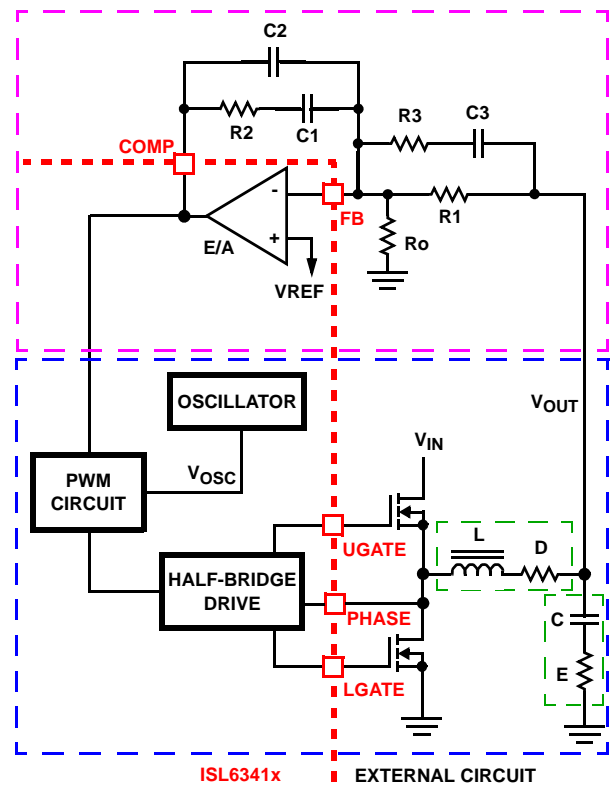

FIGURE 13. VOLTAGE-MODE BUCK CONVERTER COMPENSATION DESIGN
This section highlights the design consideration for a voltage-mode controller requiring external compensation. To address a broad range of applications, a type-3 feedback network is recommended, as shown in the top part of Figure 13.
Figure 13 also highlights the voltage-mode control loop for a synchronous-rectified buck converter, applicable to the ISL6341x circuit. The output voltage ( $V_{OUT}$ ) is regulated to the reference voltage,  $V_{REF}$ . The error amplifier output ( $COMP$  pin voltage) is compared with the oscillator ( $OSC$ ) modified sawtooth wave to provide a pulse-width modulated wave with an amplitude of  $V_{IN}$  at the  $PHASE$  node. The PWM wave is smoothed by the output filter ( $L$  and  $C$ ). The output filter capacitor bank's equivalent series resistance is represented by the series resistor  $E$ .
The compensation network consists of the error amplifier (internal to the ISL6341x) and the external  $R_1$  to  $R_3$ ,  $C_1$  to  $C_3$  components. The goal of the compensation network is to provide a closed loop transfer function with high 0dB crossing frequency ( $F_0$ ; typically 0.1 to 0.3 of  $f_{SW}$ ) and adequate phase margin (better than 45°). Phase margin is the difference between the closed loop phase at  $F_{0dB}$  and 180°. The equations that follow relate the compensation network's poles, zeros and gain to the components ( $R_1$ ,  $R_2$ ,  $R_3$ ,  $C_1$ ,  $C_2$ , and  $C_3$ ) in Figure 13. Use the following guidelines for locating the poles and zeros of the compensation network:
4. Select a value for  $R_1$  (1kΩ to 5kΩ, typically). Calculate the value for  $R_2$  for desired converter bandwidth ( $F_0$ ). If setting the output voltage via an offset resistor connected to the FB pin ( $R_O$  in Figure 13), the design procedure can be followed as presented in Equation 4.